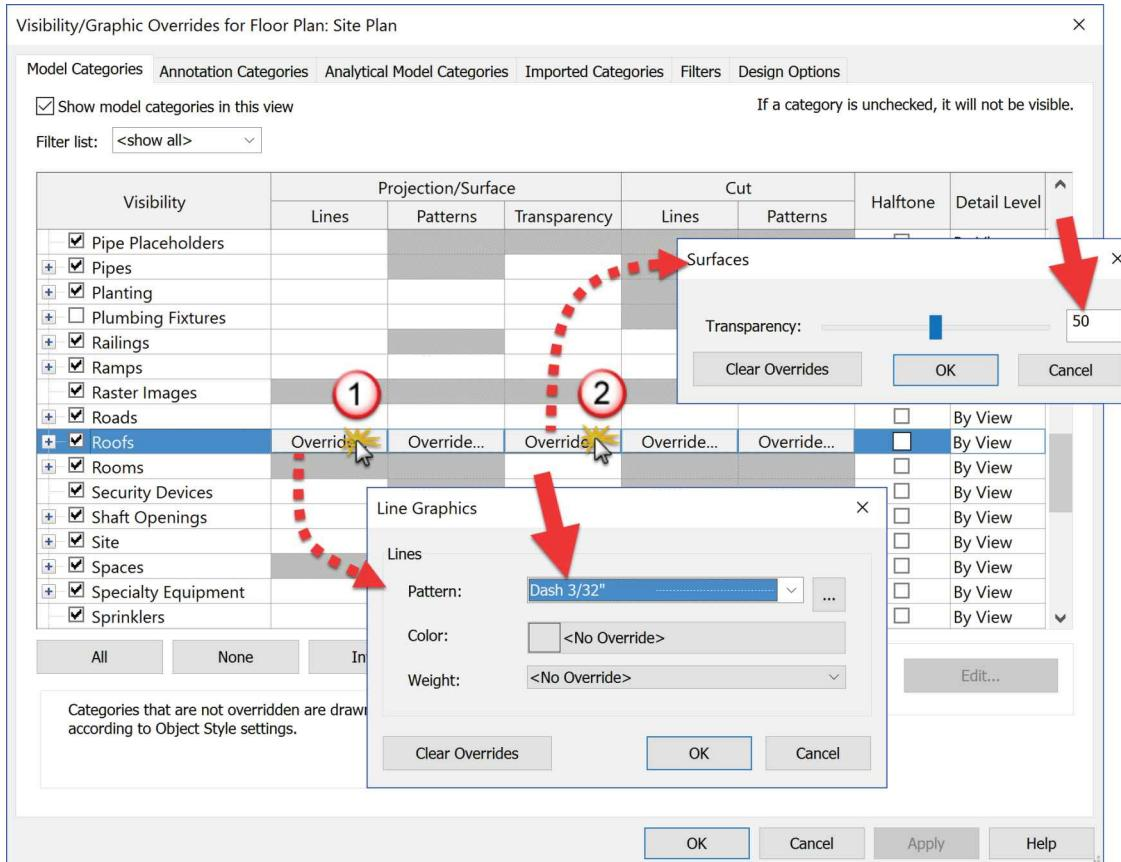

FIGURE 14-1.3 Graphics override by view
9. Click the **Open the Visibility Graphics dialog** button and make the changes shown in Figure 14-1.3: